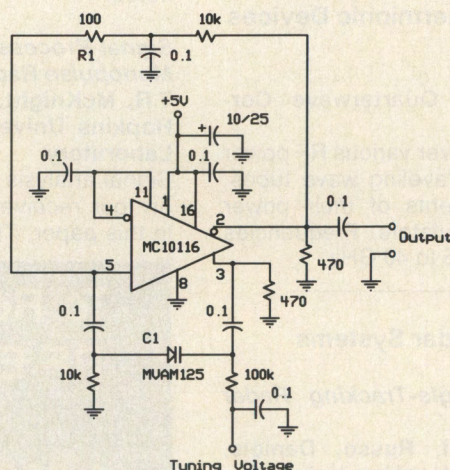

Figure 1. An oscillator with a 17 to 1 tuning range.
This oscillator has less than 20 percent amplitude change over its 3.5 to 60 MHz tuning range. The tuning rate is 2 to 3 volts for each 5 MHz over most of its range with no abrupt changes of amplitude, wave form or frequency. Output impedance is 50 ohms and the output level is 0.6 volts peak to peak. As shown in Figure 1, the circuit uses an ECL line receiver (MC10116), tuned by an RC network with a MVAM 125 as the variable element (1).